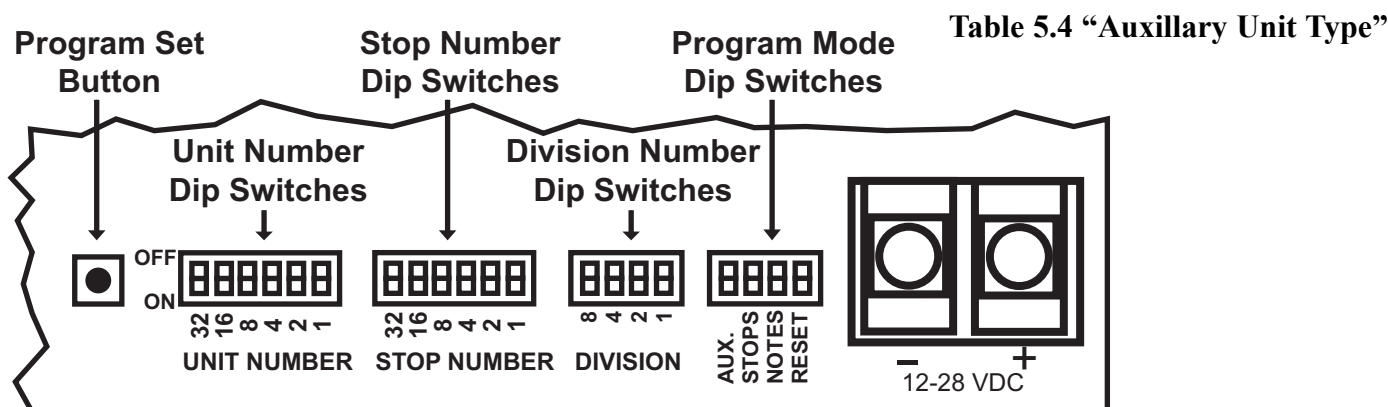

Figure 5.5 “Driver-Board-Programming-DIPs”
2. On the Program Mode DIP Switches, see figure 5.5 “Driver-Board-Programming-DIPs,” set the AUX. switch to ON(closed). The STOPS, NOTES and RESET Switches must be OFF (open).
3. (optional) To clear all Aux. memory set the RESET switch to ON and press the PROGRAM SET button. On the Program Mode DIP Switches, see figure 5.5 “Driver-Board-Programming-DIPs,” set the RESET switch to OFF, wait approximately 5 seconds for the Aux mem ory to be erased and then proceed to the next step.
4. Set the Division Number Dip Switches, see figure 5.5 “Driver-Board-Programming-DIPs,” to equal the division number that the Console Stop is in (Pedal/Division-1; Great/Division-2; Swell/Division-3 and Choir/Division-4 ...).
5. Set the Stop Number Dip Switches, see figure 5.5 “Driver-Board-Programming-DIPs,” to desired Stop number.
6. Set the Unit Number Dip Switches, see figure 5.5 “Driver-Board-Programming-DIPs,” to desired Unit number. For a list of Auxillary Function Unit Types see table 5.4 “Auxillary Unit Types.”